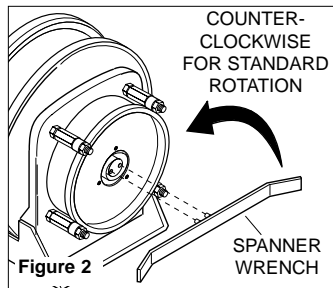

Figure 2
8. Insert spanner wrench into holes in spring hub (Fig 2). Rotate spanner wrench counter-clockwise. Number of 360° turns should match last digit in model number on serial plate.